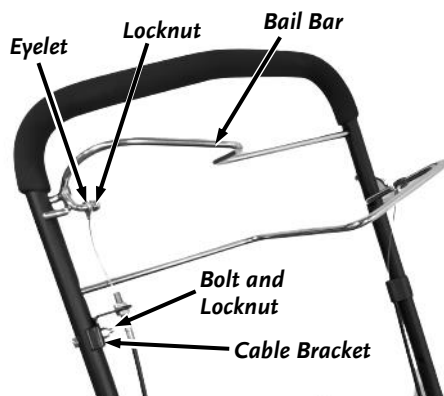

Figure 38
5. Remove the Locknut that is securing the Drive Cable Eyelet to the Bail Bar using a 7/16" Wrench and remove the Eyelet from the Bail Bar (Figure 38).
18. Reattach the Cable Bracket to the Handlebar using two 7/16" Wrenches (**Figure 38**).